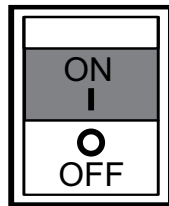

Figure 26. Idle Control switch (ON)
2. Place idle control switch (Figure 26) in the **ON** position.